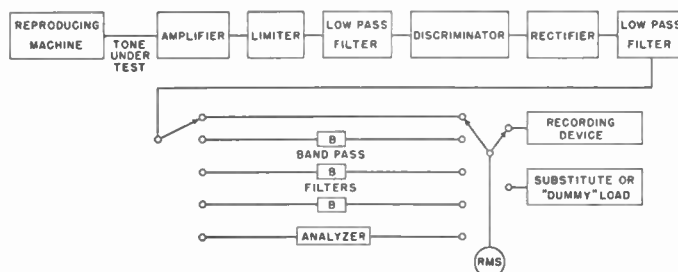

Fig. 1—Block diagram of a typical flutter-measuring instrument.
3.1 The block diagram, Fig. 1, shows the principal elements of a typical flutter-measuring instrument.
For the purpose of analyzing the causes of flutter in a recording or reproducing system, it is often desirable to make measurements in several ranges of flutter-frequency. For such purposes bandpass filters may be incorporated in the measuring instrument, as shown at *B, B, B*, in Fig. 1, or an adjustable bandpass filter or "analyzer" may be provided, so that flutter components at specific rates can be measured.
Valuable information is given by a record of instantaneous frequency deviations (flutter oscillogram, or "wowgram") covering a period of several seconds. The block diagram, Fig. 1, shows provision for such a recording device, which can be used in addition to the rms indicating instrument. (See 4.6.)